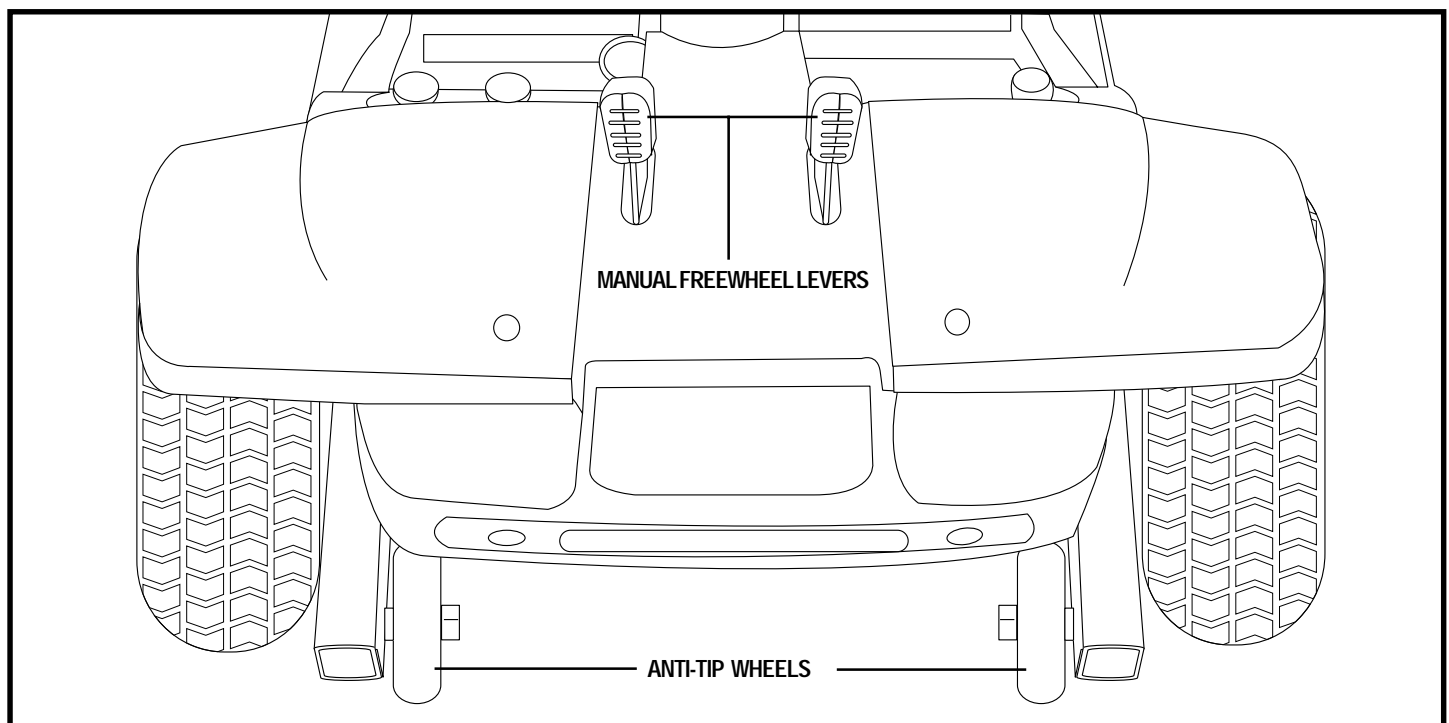

Figure 7. Back of Power Base
1. Locate the levers on the rear section of the power base. See figure 7.
The anti-tip wheels are an integral and important safety feature of your Z-Chair. See figure 7.